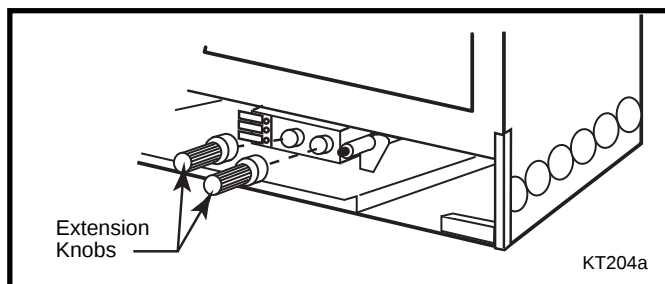

Fig. 62 Install the knob extensions. (Only for RN/RP models)
- Install the Control Knobs Extensions onto the appropriate Control Valve Knobs (Fig. 62)
On units fitted with a Honeywell brand control valve the location of the control knobs and the ignitor button may vary slightly from those shown in Figure 62. The Honeywell extension pieces are visually different in design and are not interchangeable with the RN/RP knobs shown in Figure 62.